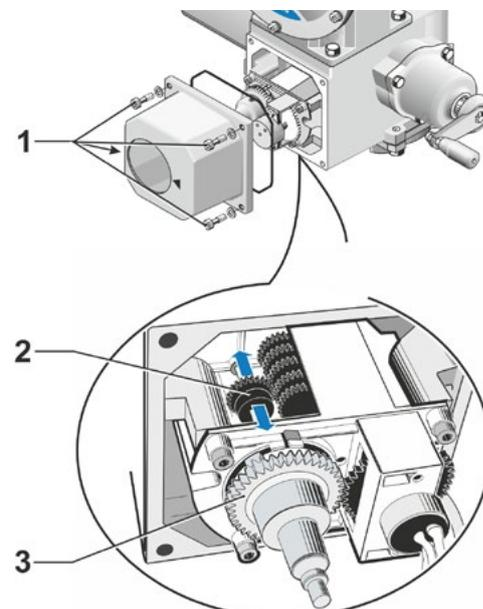

Fig. 3: Adjust signaling gear ratio
5. Loosen 4 screws (fig. 3, item 1) from the signaling gear cover and remove cover.
and adjust slide wheel (fig. 3, item. 2) so that the gear rim faces the desired incremental value on the scale.
- Push the slide wheel in the desired direction, applying only little pressure. Adjusting the slide wheel is facilitated by a slight movement of the central wheel (fig. 3, item 3).